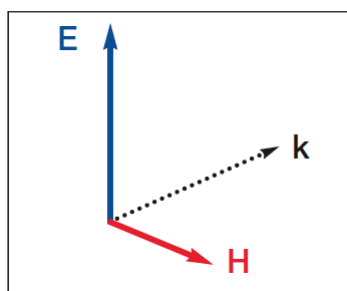

Figure 1. The field vectors of light.
Natural light is a transverse electromagnetic wave with electric (E) and magnetic (H) fields perpendicular to each other (Fig. 1). The two fields are also perpendicular to the wave's direction of travel (k). In unpolarized light the electric field